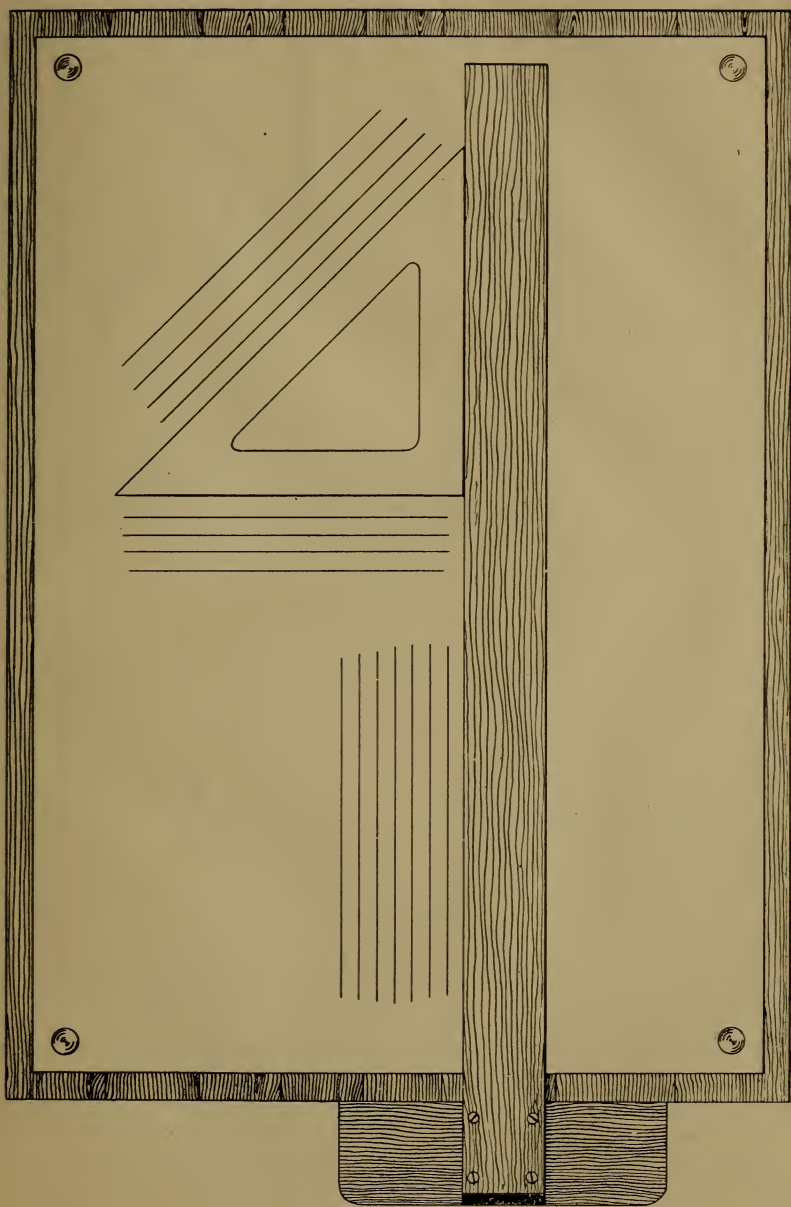

Fig. 4. Drawing Board with T-square and Triangle in place showing Method of Drawing Horizontal, Vertical and Inclined Lines.
5. **T-SQUARE.** The T-square (Fig. 4) consists of a long, light blade attached at right angles to a head which slides along the left side of the drawing board. All horizontal lines are drawn by moving the pencil along the top edge of the T-square, whose head is held snug against the left edge of the board. Do not hold the head against the bottom edge of board to draw vertical lines.
All vertical or slanting lines are drawn with the aid of triangle (Fig. 4).